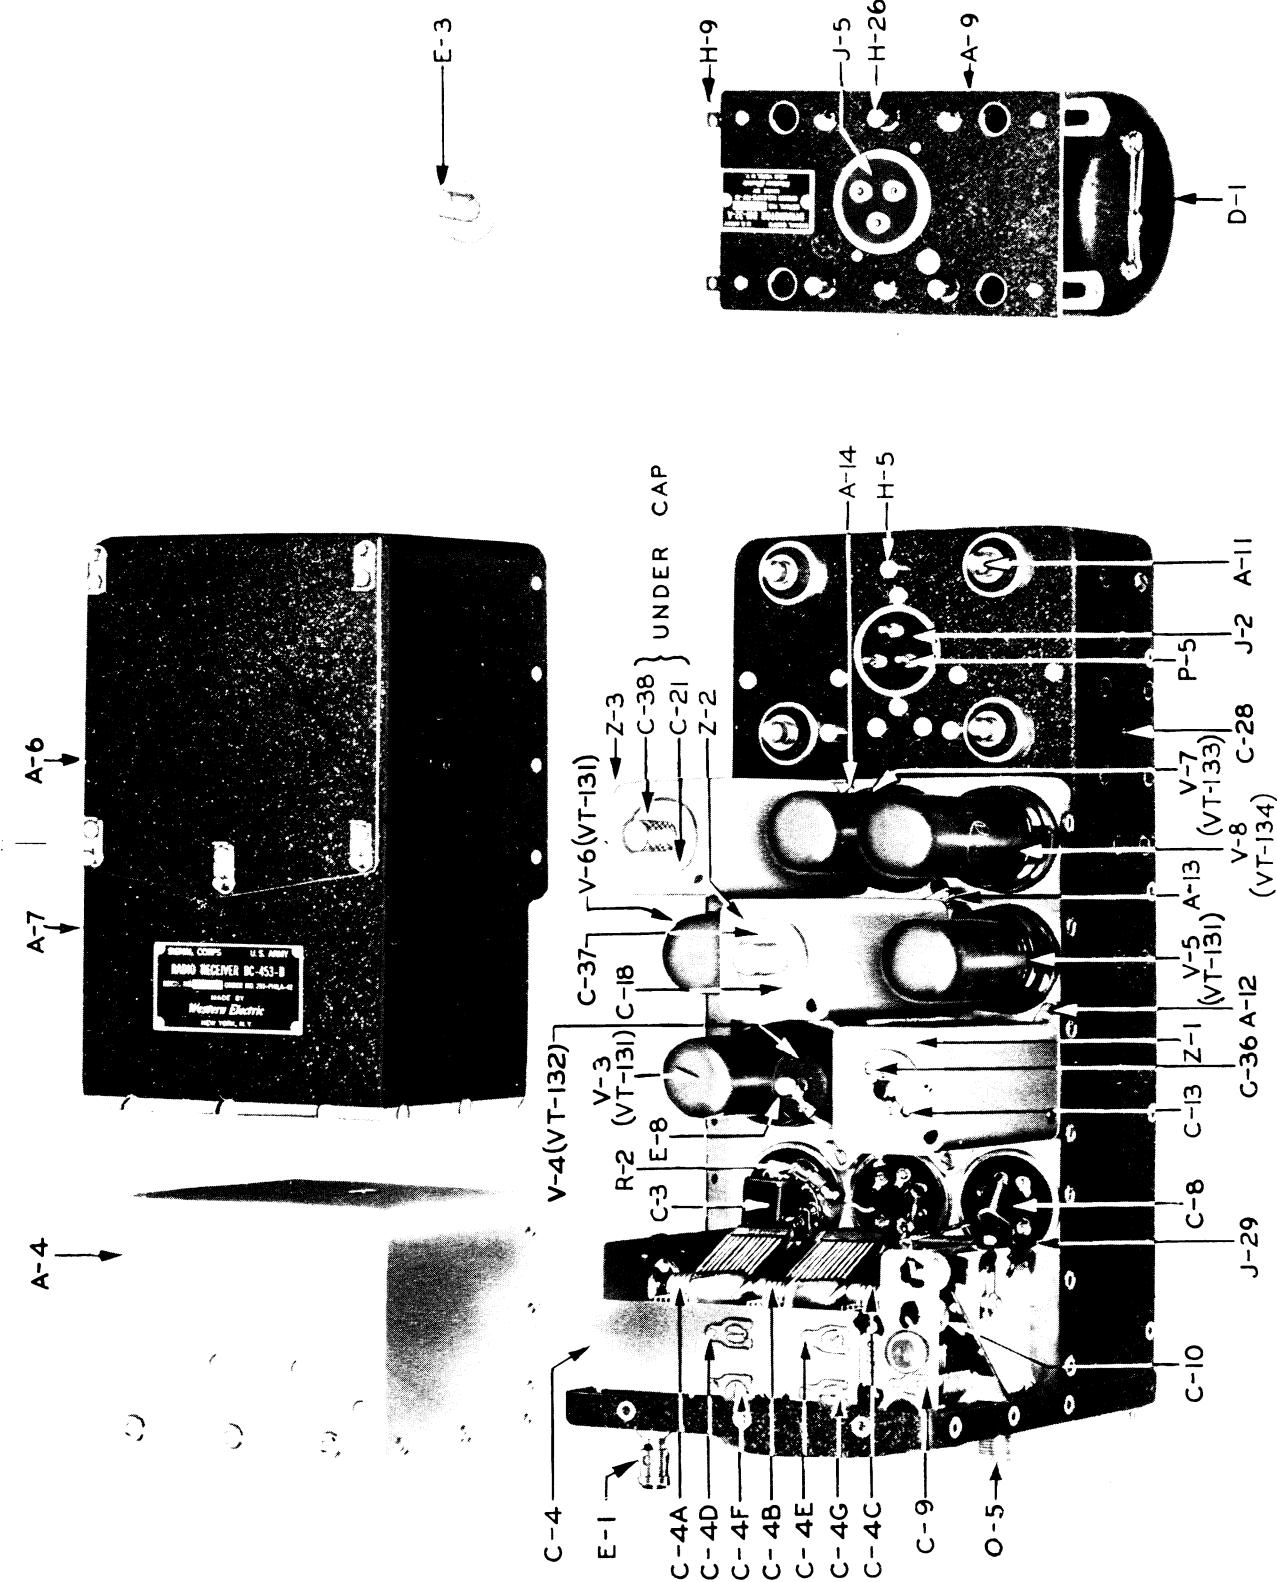
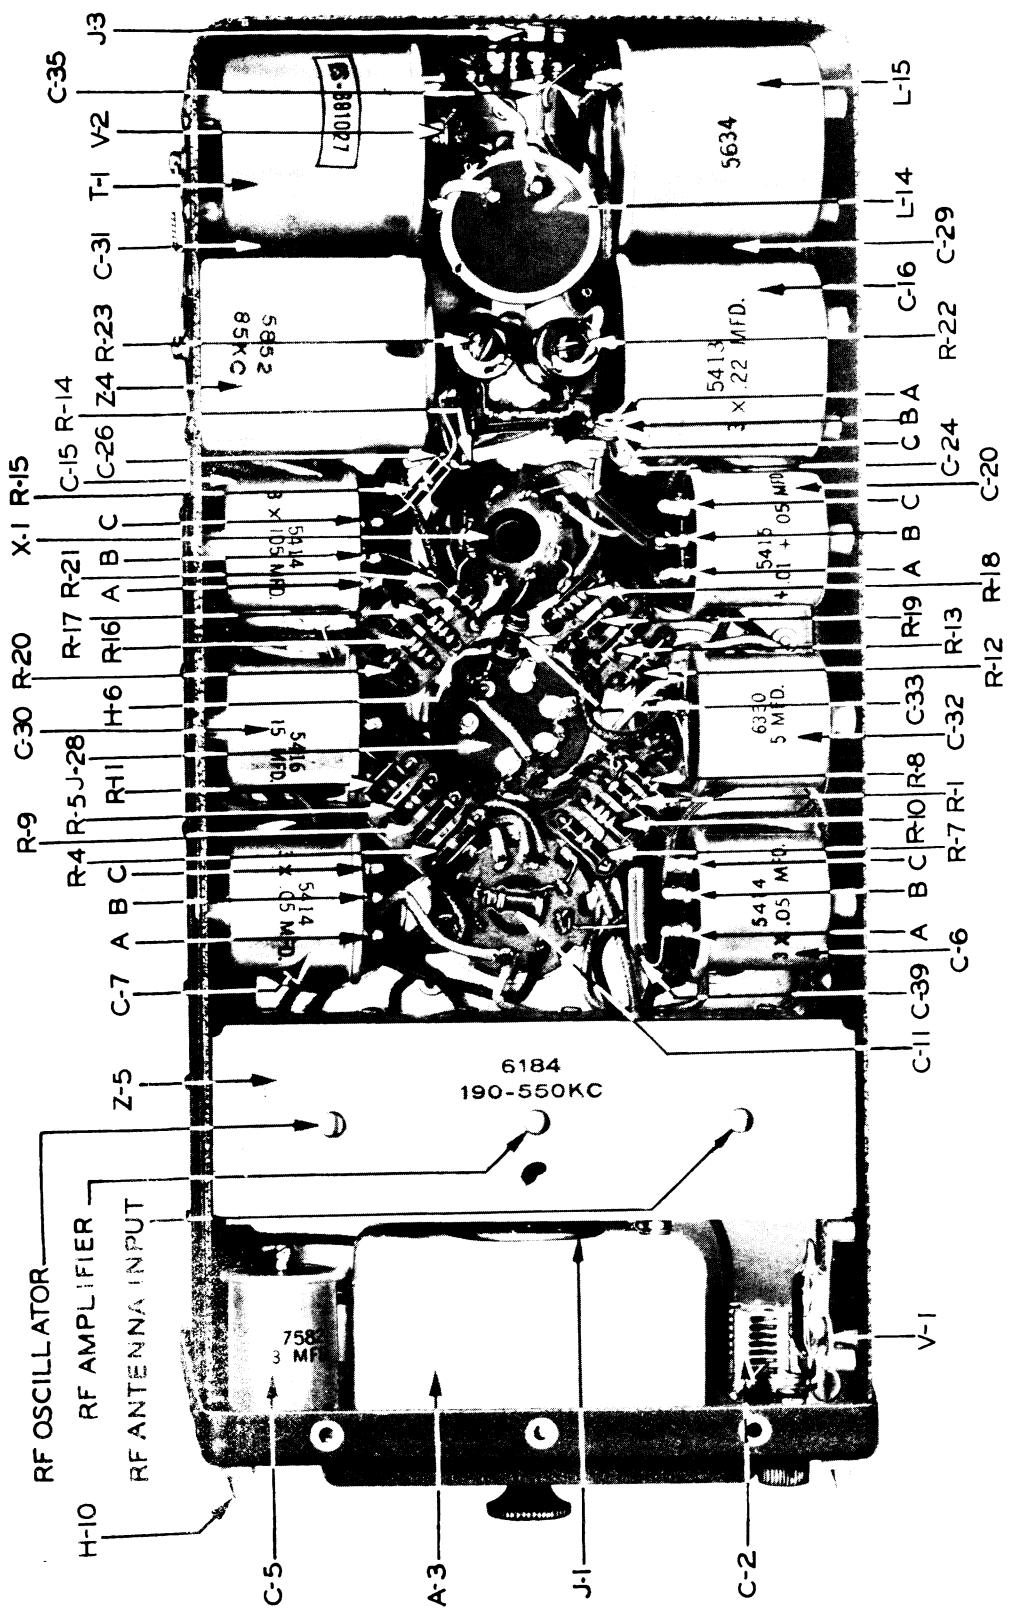

FIGURE 3 TYPICAL RADIO RECEIVER, TOP INSIDE VIEW, AND BOTTOM VIEW OF DYNAMOTOR DM-32-A
FIGURE 4 — TYPICAL RADIO RECEIVER, BOTTOM INSIDE VIEW
- (2) The radio frequency (r-f) part of these radio receivers consists of the following circuits and vacuum tubes, starting at the antenna: a tuned antenna input circuit, an r-f amplifier tube V-3 (Tube VT-131), a tuned r-f amplifier circuit, a mixer tube V-4 (Tube VT-132), and an r-f oscillator circuit. The antenna, the r-f amplifier and the r-f oscillator circuits are tuned by equal sections of a three-section gang capacitor C-4 (A, B, C). The plate current of mixer tube V-4 contains a frequency component which is equal to the difference between the frequency of the applied signal and that of the r-f oscillator voltage.
- (3) Antenna coil L-1 is contained in Z-5A which is a unit of plug-in r-f coil set assembly Z-5 (Figure 4). Z-5B contains the r-f amplifier coils L-2 and L-3. Z-5C contains L-4, L-5, R-3 and R-6 of the r-f oscillator. L-1 of Z-5A, L-3 of Z-5B and L-5 of Z-5C contain iron cores which are used to adjust each coil to a particular value of inductance. After this adjustment at the factory, the iron cores are sealed in position. A subsequent change in the setting of any of these will upset the tracking of that circuit.
- (4) C-1 is a small fixed capacitor which couples the antenna to the input tuned circuit. The capacitances of C-1 and C-2 are so designed that for any capacitive antenna it is possible to resonate the antenna circuit by tuning C-2.
- (5) C-39 (across L-2 in Radio Receiver BC-453-A (or -B) only) serves to tune L-2 to a frequency lower than 190 kc, and by so doing, to increase the amplification of signals at the low frequency end of the tuning range. This assists in producing a reasonably uniform receiver sensitivity over the tuning range. The plate-to-screen capacitance of r-f amplifier tube V-3 (Tube VT-131) and the capacitance of the wiring to L-2 perform a corresponding function in Radio Receivers BC-454-A (or -B) and BC-455-A (or -B).
- (6) L-5 of the r-f oscillator has a lower inductance than L-3 of the r-f amplifier circuit. This lower value of L-5, aided by the insertion of C-10 between L-5 and ground, results in an r-f oscillation which is higher in frequency than the signal frequency. By design, this difference is equal to the intermediate frequency throughout the tuning range of the receiver. L-4 and L-5 are the grid and plate coils of the r-f oscillator. C-4C, with trimmers C-4E and C-4G, and C-10 with trimmer C-9, together determine the tuning capacitance across L-5. C-8 is a grid blocking capacitor, and R-3 is a grid resistor. R-6 is a series resistor in the plate circuit which not only serves to drop the dynamotor voltage to the proper value for the r-f oscillator, but also acts as an r-f filter in conjunction with C-10 to isolate this circuit from others connected to the high-voltage supply line. C-11 is a compensating capacitor connected across the r-f oscillator tuning capacitor to reduce the frequency drift during the first half hour of operation.
- (7) The intermediate frequency (i-f) part of these receivers consists of three i-f coupling units, Z-1, Z-2 and Z-3 (Figure 3), following the V-4 (Tube VT-132) mixer tube, V-5 (Tube VT-131) first i-f amplifier tube and the V-6 (Tube VT-131) second i-f amplifier tube, respectively. In Radio Receivers BC-453-A (or -B) and BC-454-A (or -B), each i-f coupling unit contains two tuned circuits which are magnetically coupled. Z-1 which is representative of the three coupling units consists of coils